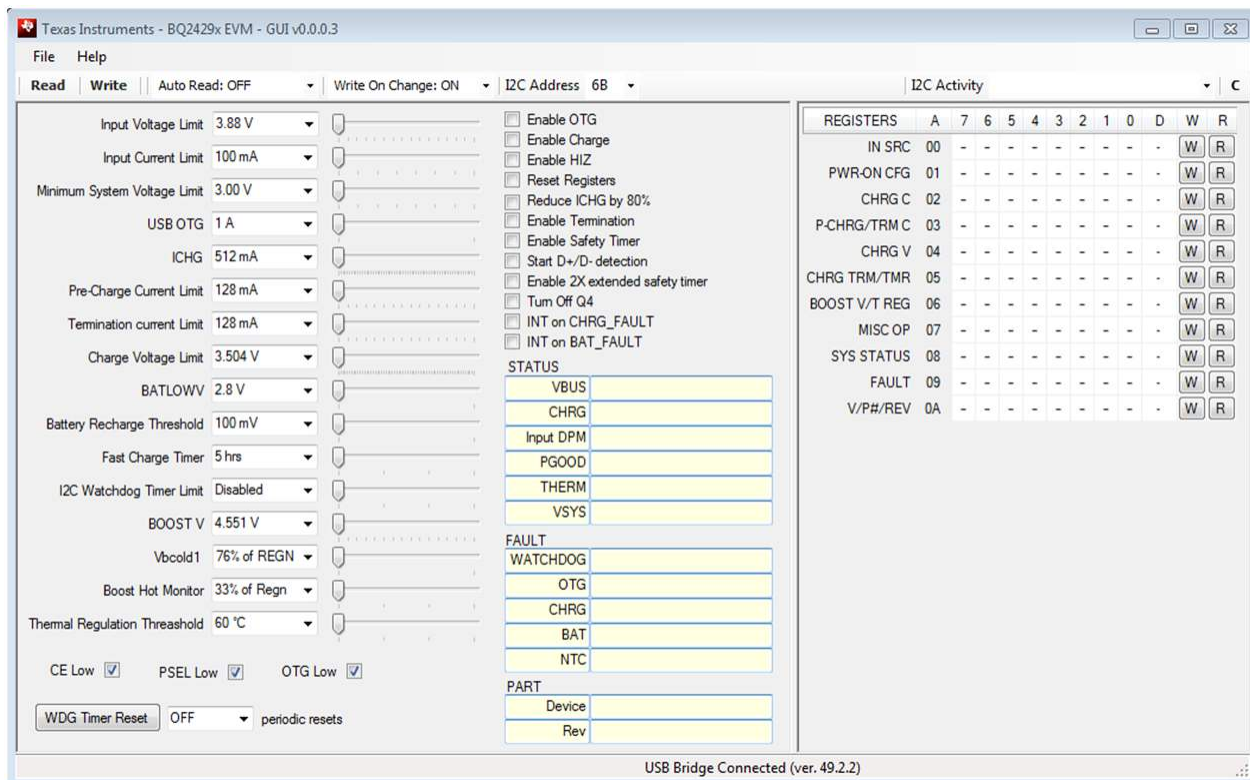

Figure 4. Main Window of the bq2429x Evaluation Software
2. Disable the watchdog timer if not using the **WDG Timer Reset** button (illustrated in Figure 4), so the programmed setting does not reset.
- (I) Turn on the computer. Launch the bq2429x evaluation software. The main window of the software is shown in Figure 4.